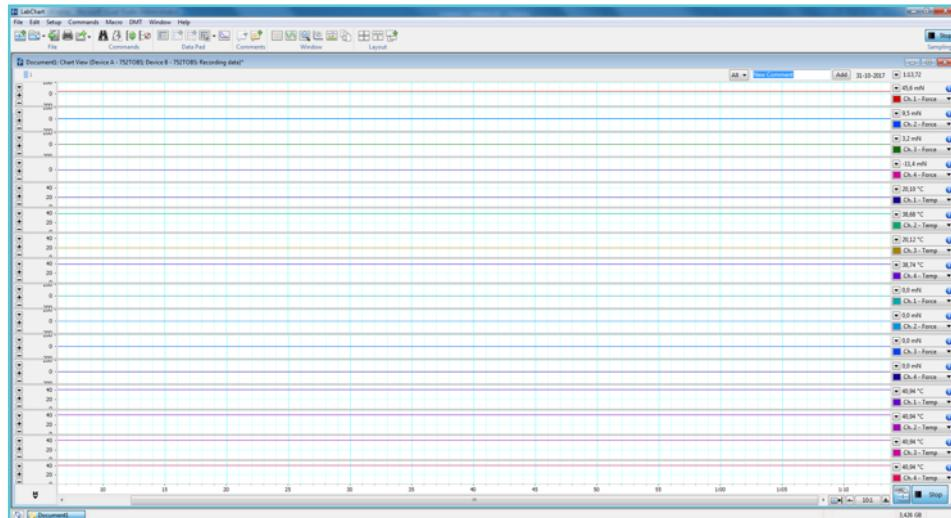

Figure 87: Labchart with two 750TOBS system connected to the same computer.
13. Now all channels of Device A and B, 16 channels in total will be shown in Labchart (figure 87).